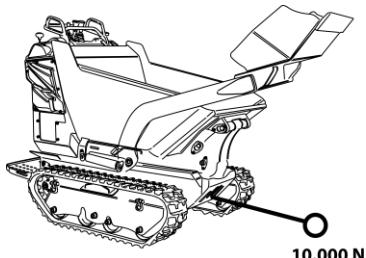

fig. 2.9 – Towing Anchor Points
**The machine is equipped with a towing hook** located on the lower front part of the undercarriage (see fig. 2.9).